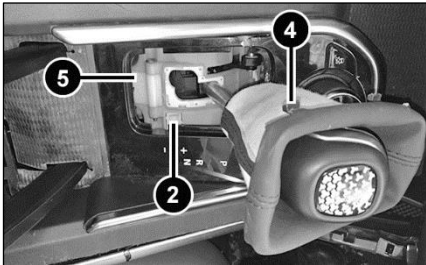

Fig 2
3. Press & hold the release button (2) provided on shifter housing till you move the shift lever from P (park) mode to other mode by simultaneously pressing the knob button (3). (Shown in fig.2)
4. Carefully insert the bellow lugs (4) & snap fit in console cutout (5) highlighted as dotted area. (shown in fig.2)